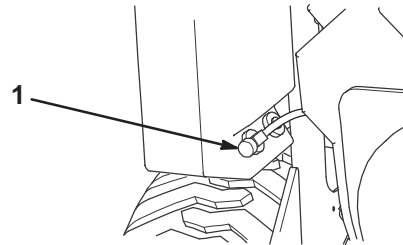

Figure 32
2. Shut off the fuel valve on the bottom of each fuel tank (Fig. 32).
3. Shut off the fuel valve on the bottom of the fuel tank (Fig. 32).